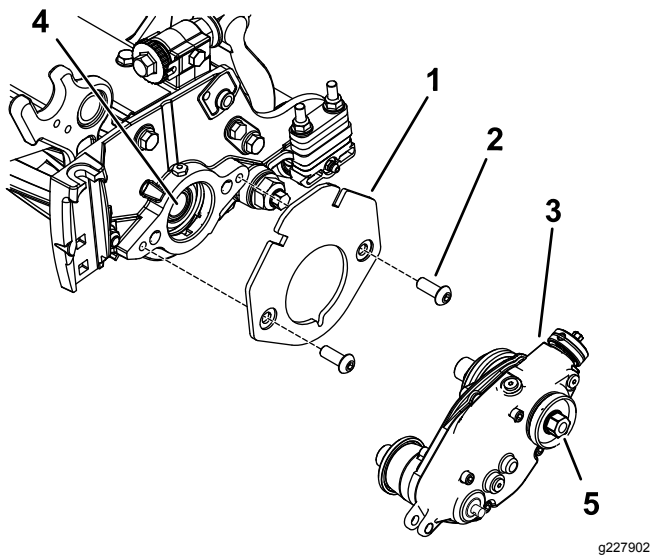

Figure 8
2. Secure the weight bracket to the reel using 2 hex-socket, button-head bolts (3/8 x 3/4 inch) as shown in Figure 8.
3. Apply medium-strength thread-locking compound (such as Blue Loctite® 243) to the threads of the internal reel shaft (Figure 8).
4. Attach the groomer drive box to the reel shaft (Figure 8) using the hex-head on the groomer drive box.